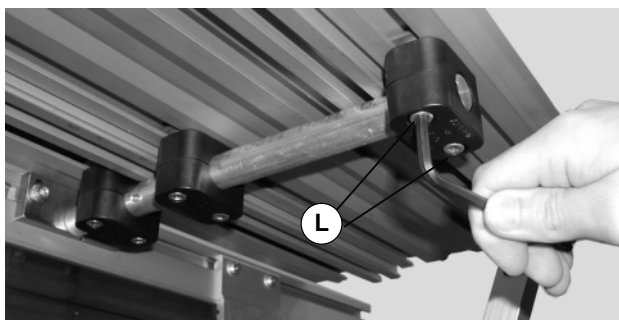

Figure 15
4. Tighten second set of clamp screws (L of Figure 15) to 30 in-lb (2.5 N-m).